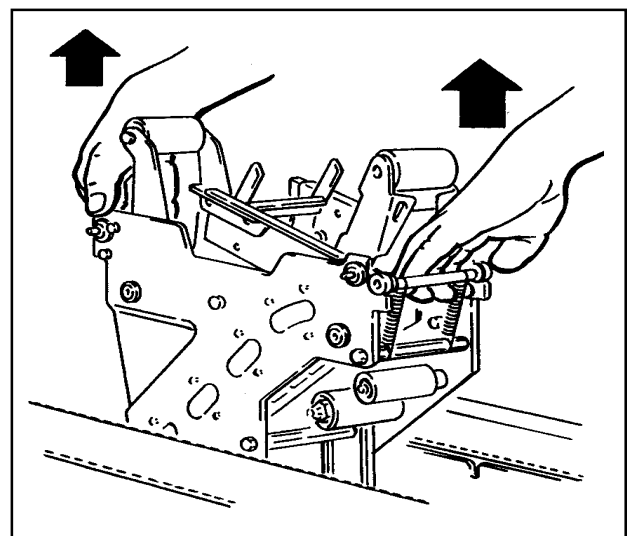

Figure 6-3—Remove Lower Taping Head
5. Lift the lower taping head, shown in Figure 6-3 straight up to remove it from the case sealer bed.